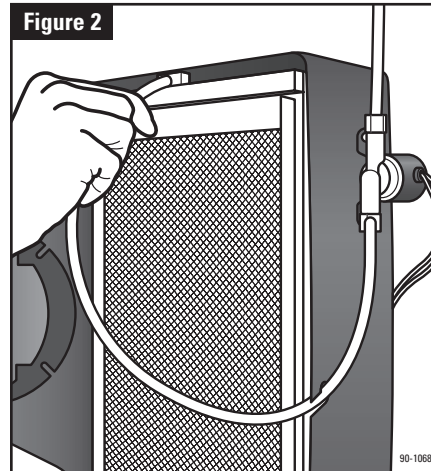

Figure 2
4. Place humidifier base (2) in opening and secure with 6 screws in openings provided.
6. Insert Water Panel Evaporator assembly into base. Make sure bottom of scale control insert (6) is seated in water level sensor assembly (9). Snap top of evaporator assembly into base. Insert feed tube into distribution tray. See **Figure 2**. Make sure float cover (14) is snapped into place and that floats (13) move freely up and down. Rotate nameplate (11) if necessary, so it is right side up. Place point bypass damper handle (8) to "WINTER" (open) for heating season and "SUMMER" for cooling season.